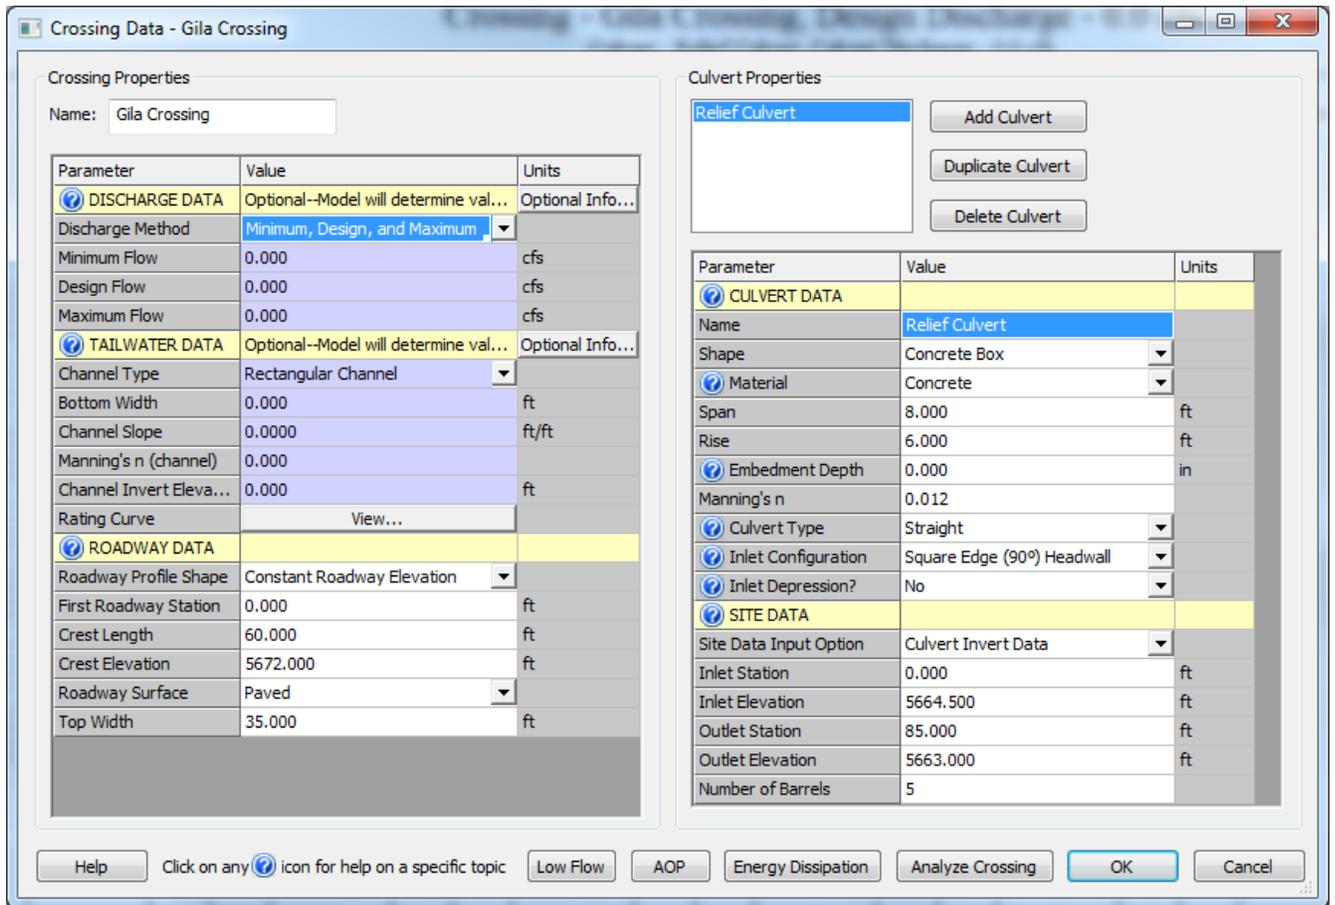

Figure 5 HY-8 Crossing and Culvert Inputs
- When done the dialog should resemble Figure 5 . Click **OK** to close the *Crossing Data* dialog.